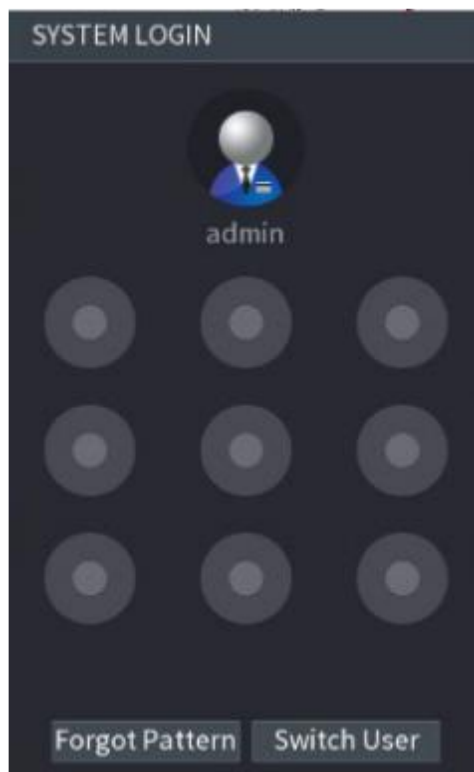
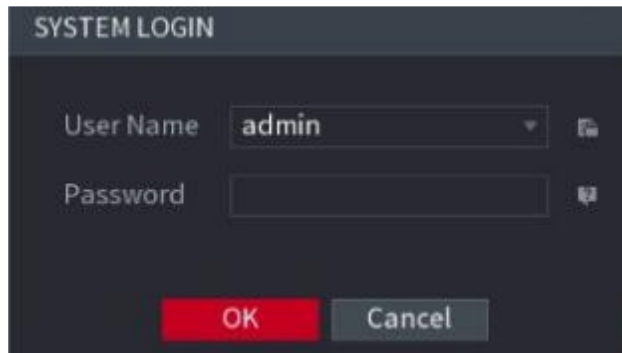

Figure 7
Figure 8
Step 1 Go to the device login interface. See Figure 7 or Figure 8.
- ★ If you have set unlock pattern, device displays unlock pattern login interface. See Figure 7**Error! Reference source not found.** Click “Forgot unlock pattern”, device goes to Figure 8.
Click Switch user button in Figure 7 or click the user name in Figure 8 and then select a user from the dropdown list, you can login via other account.